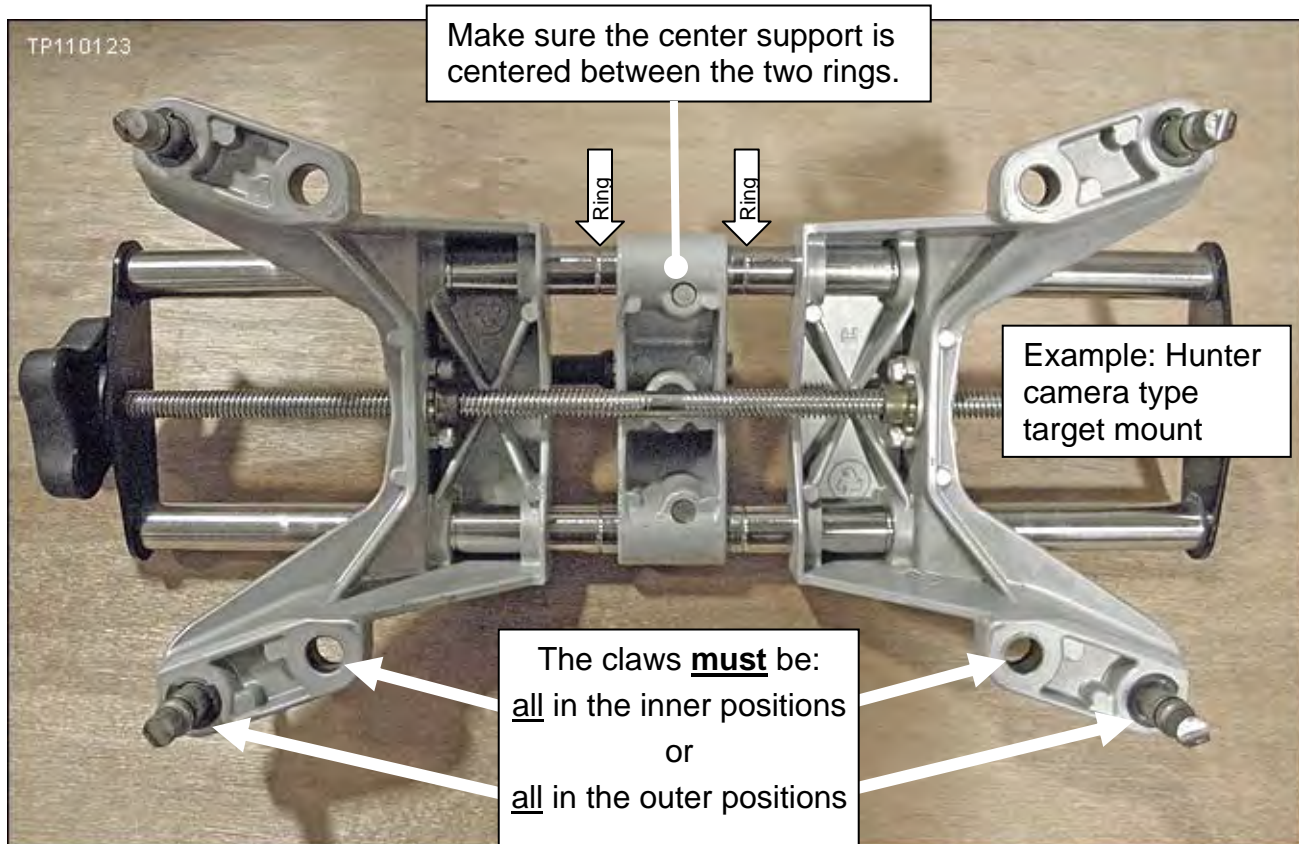

Figure 11
- Make sure the target mounts are properly adjusted and configured (see Figure 11).
**NOTE:** The target mount example shown in Figure 11 is for Hunter “camera type” alignment machines. Follow the operation manual for your specific equipment.